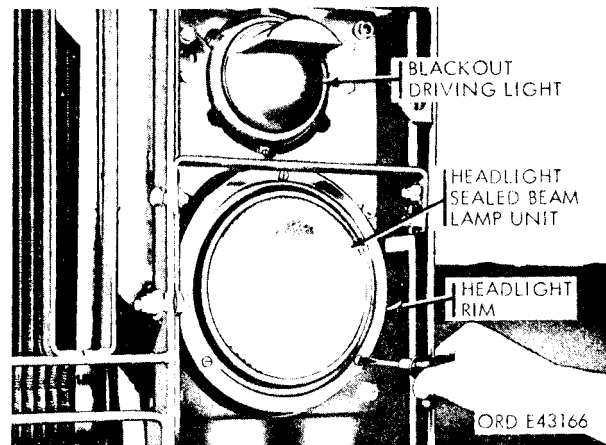

Figure 2-154. Removing headlight rim
(1) Remove the three mounting screws from the headlight rim (fig. 2-154), and remove the rim.
(3) Position the headlight rim (fig. 2-154), and secure it with three screws.